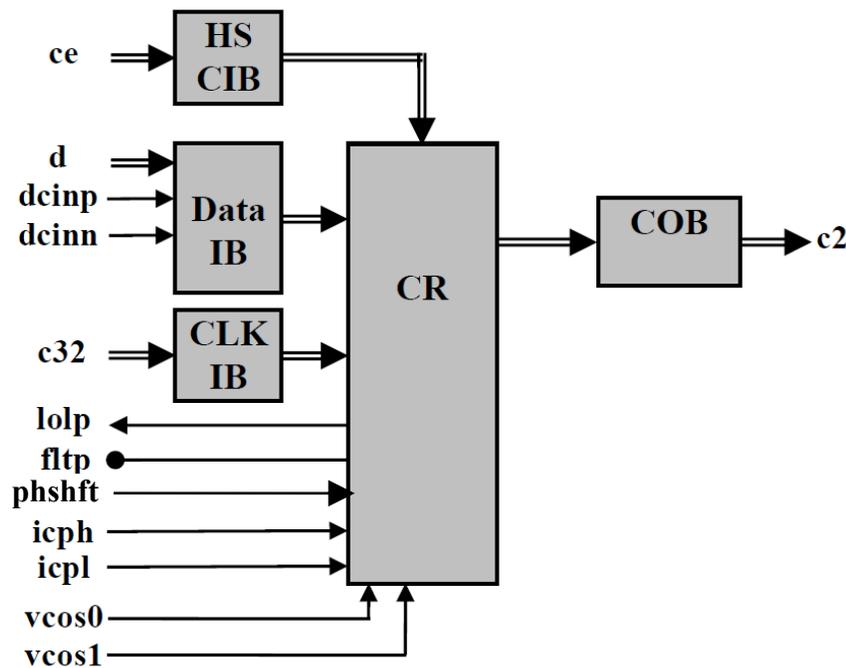

Fig. 1. Functional Block Diagram
ASNT8160C-KMF is a half-rate integrated clock recovery (CR) circuit. The IC shown in Fig. 1 functions in the CR mode covering a wide range of input data rates (f_{bit}) by utilizing its three on-chip VCOs (voltage-controlled oscillators). Selection of the desired working data rate and mode is accomplished through pins $vcos0$ and $vcos1$ (see Table 1). An external low speed system clock $c32p/c32n$ running at 1/32 the frequency of the active VCO must be applied to the low-speed LVDS clock input buffer (CLK IB) for the IC to work properly.